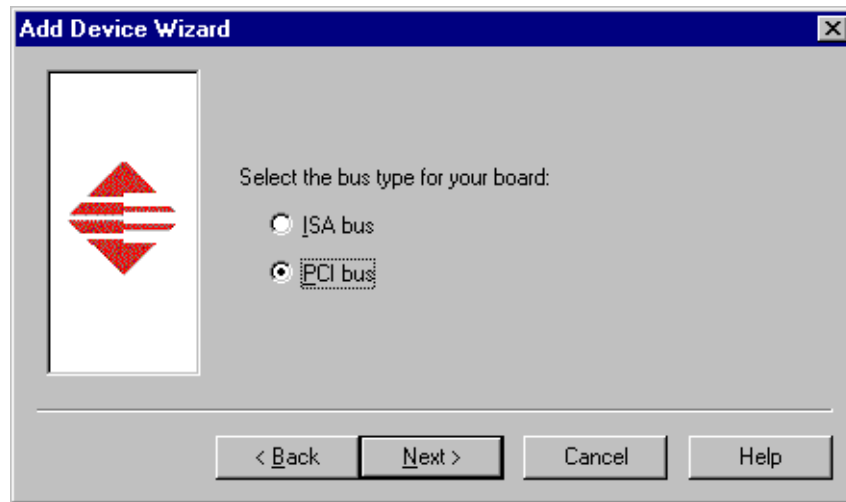

Figure 3. Select the PCI bus type.
8. The Add Device Wizard starts. Click **Next** to continue, then select PCI bus as the bus type (see Figure 3) and click **Next** again.